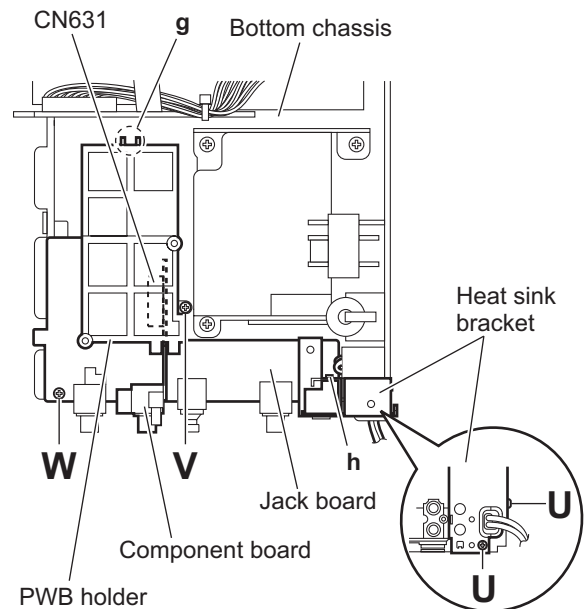

Fig.17
3.1.13 Removing the jack board and component board (See Fig.17)